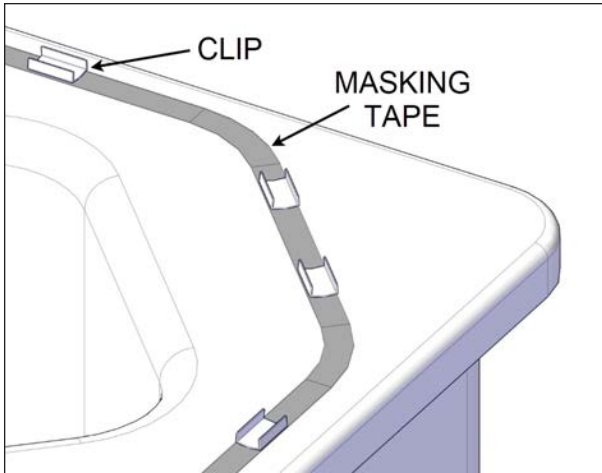
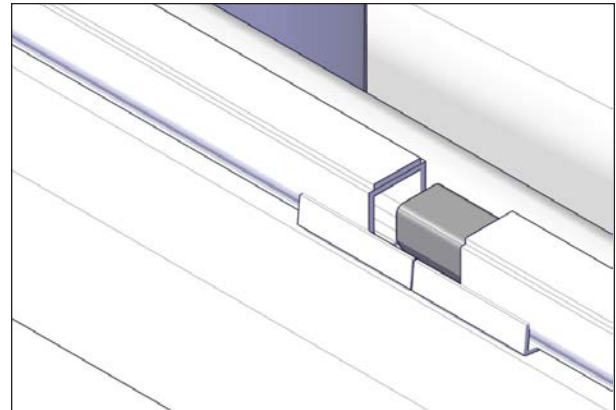
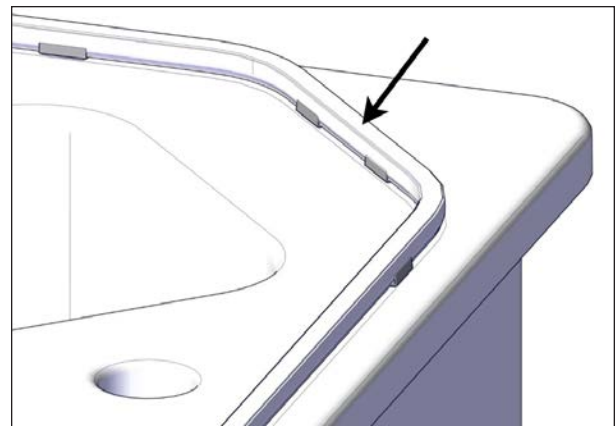

FIGURE 61: MASKING TAPE AND CLIPS
FIGURE 62: SEAL JOINT CONNECTOR
FIGURE 63: SEAL INSTALLATION
4. Apply the masking tape on the perimeter of the spa where the seal will be installed. The ideal location for the seal is closer to the swim spa interior edge on a flat surface, see Figure 61.
5. The number of seal clips is limited. Temporarily install the clips all around the spa to ensure the best distribution (do not stick yet). The minimum turn radius for the seal is 4" (10 cm), see Figure 61. Keep two clips for the seal joint connector as shown in Figure 62. Once the distribution is done, stick the clips in place (on the tape if applied).
6. The seal joint starts on the opposite side from the spa entrance. Install two clips where the seal joint connector will be located, see Figure 62.
7. Start installing the seal joint with the adhesive layer facing up towards the cover, see Figure 62 and Figure 63.
9. Insert the supplied seal connector in both ends of the seal. The use of masking tape to hold the two ends is recommended, see Figure 62.